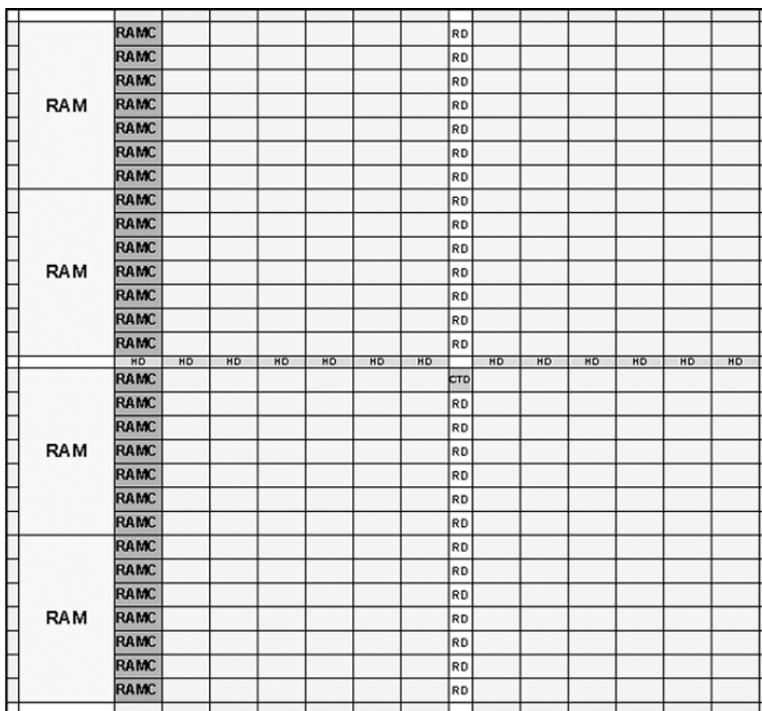
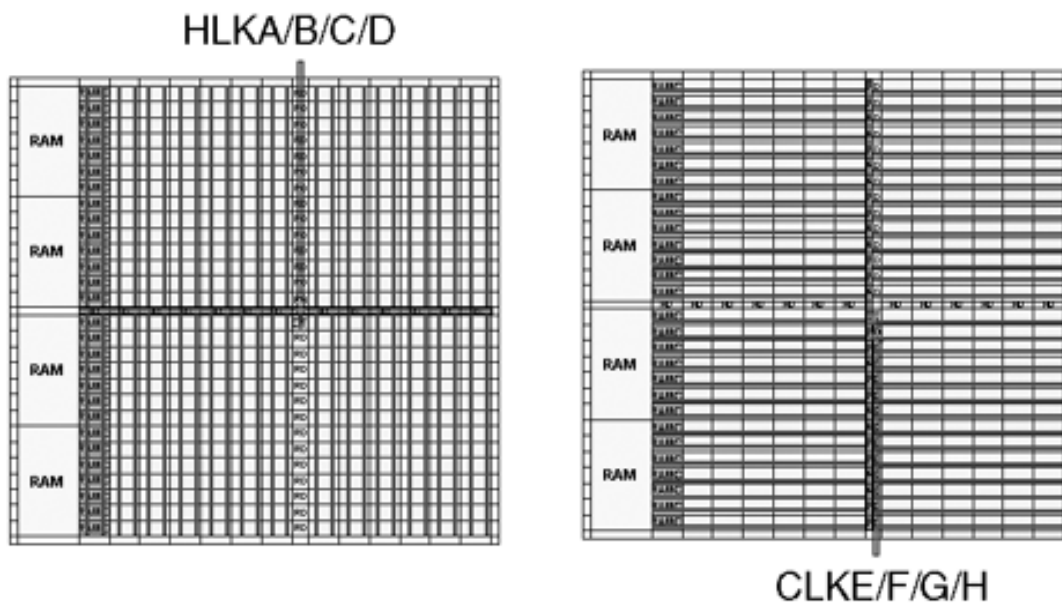

Figure 2-44 • CTD, CD, and HD Module Layout
Figure 2-45 • HCLK and CLK Distribution within a Core Tile
vertically through the center of the core tile to CLKRowDist (RD) modules in every SuperCluster row. Together, the HCLK and CLK branches provide for a low-skew global fanout within the core tile (Figure 2-44 and Figure 2-45).